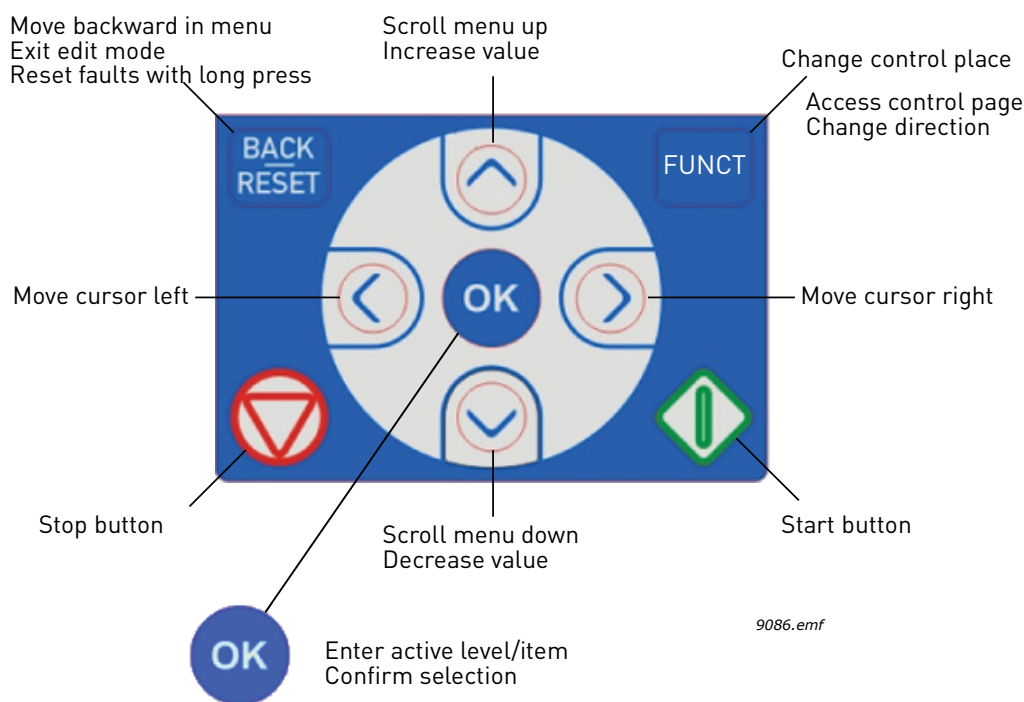

Figure 13. Keypad buttons
**The *Location* field indicates your current location. The *Status* field gives information about the present status of the drive.** See Figure 13.